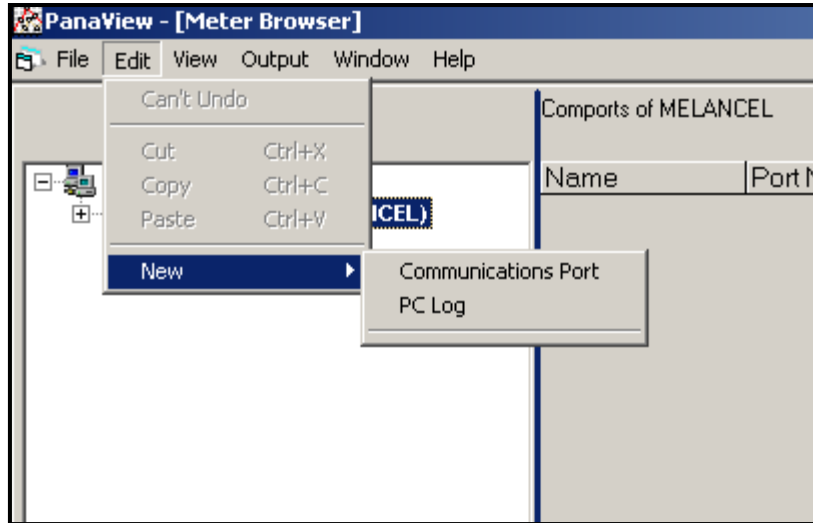

Figure 17: The Edit Menu
3. Click on the “*New*” menu option to select it, and a submenu opens with two choices on it (see Figure 17 below).